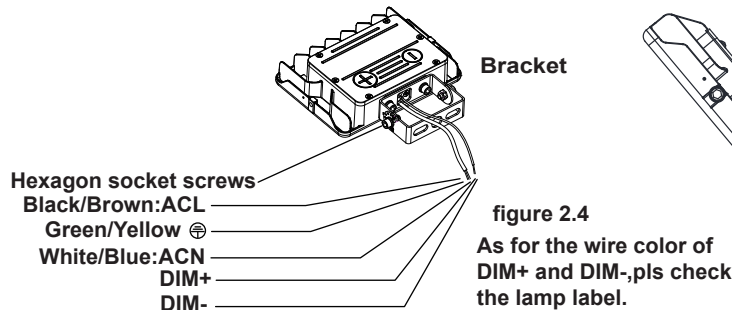

figure 2.4
Step 2: Connect the wires properly according to the right wiring requirements (pay attention to positive wire, negative wire, and ground wire) and then put the wires into lamp pole. (figure 2.4)